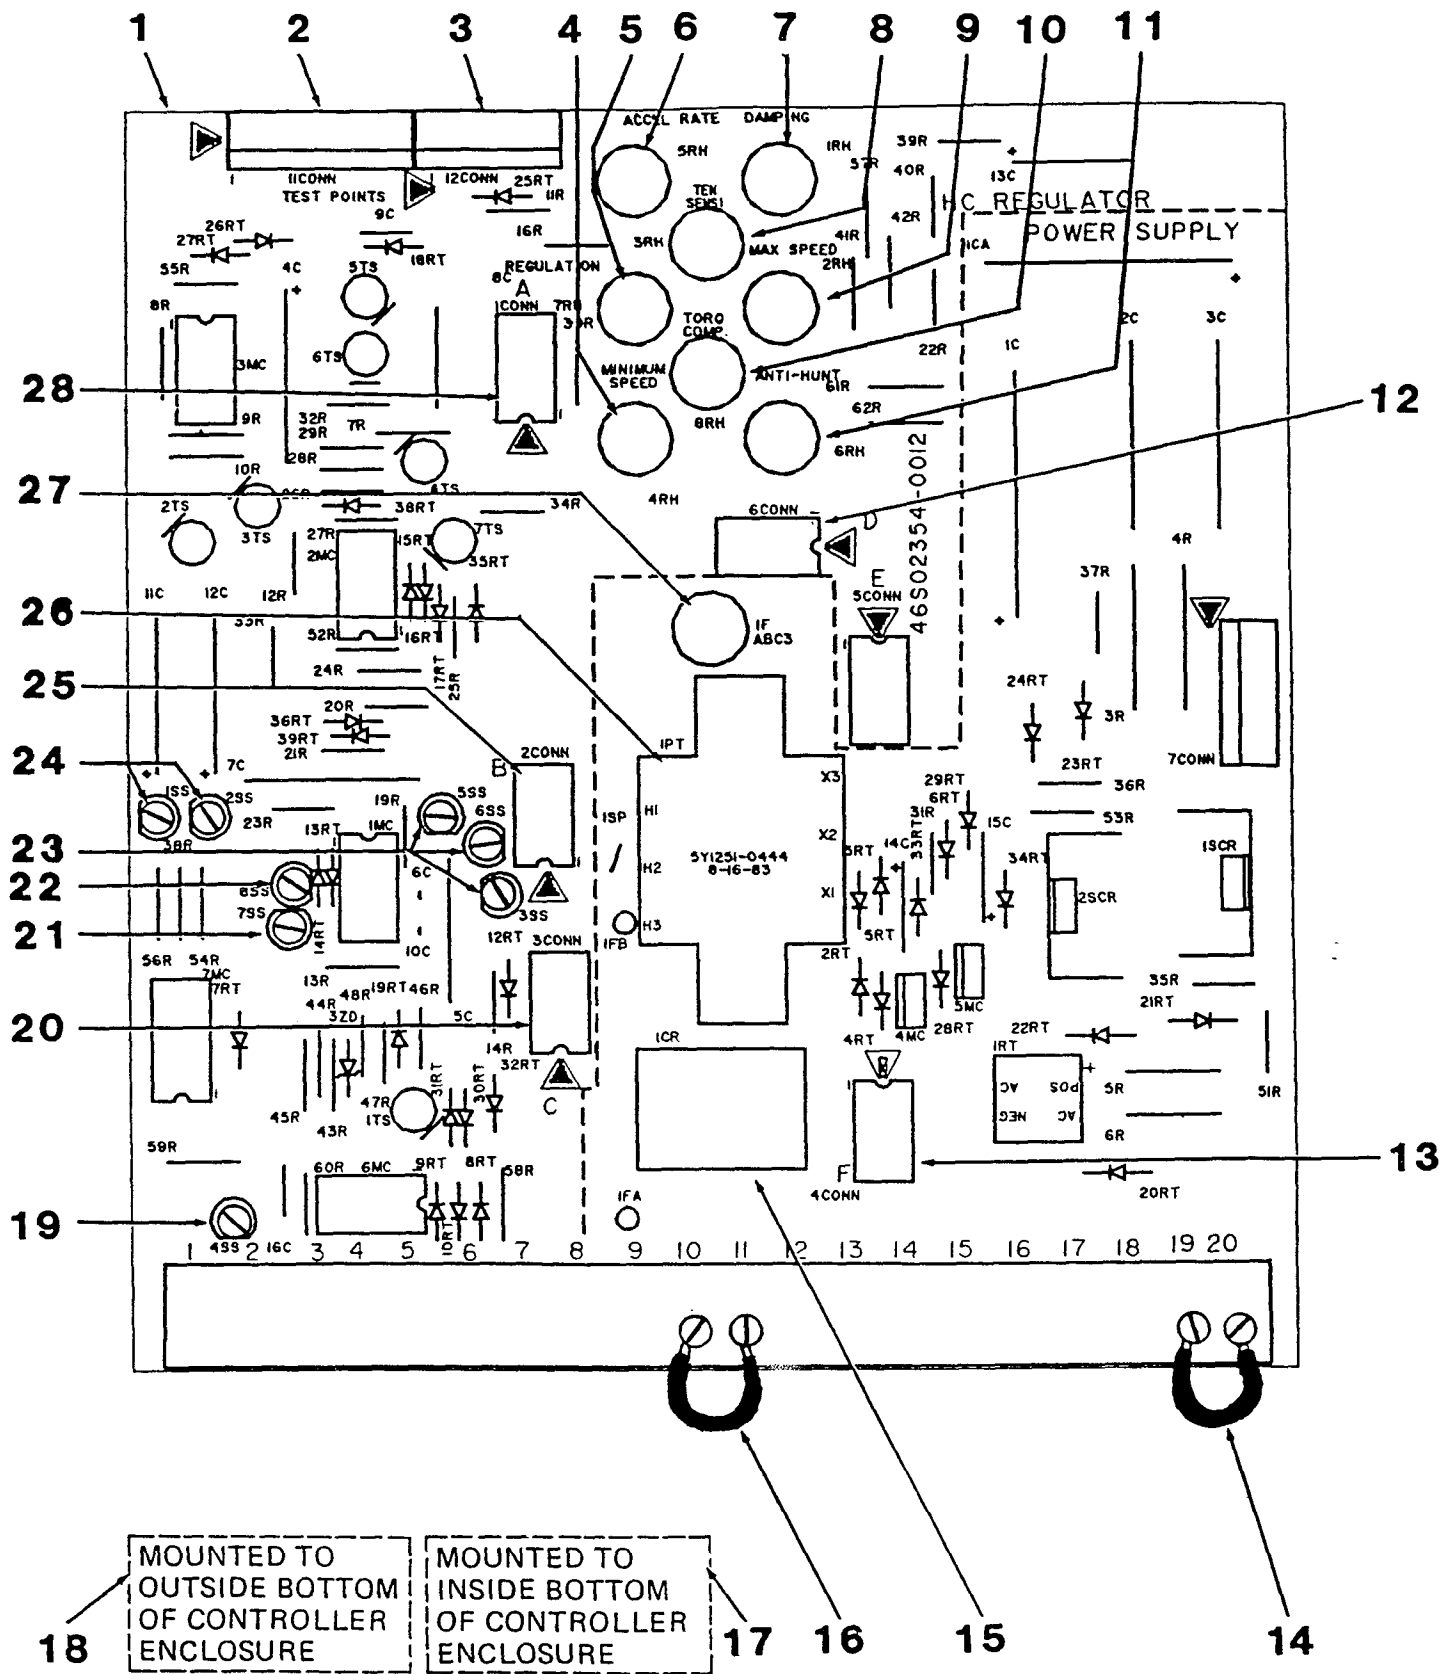

Figure 3. HC2 Controller, Major Component Location
### LEGEND, FIGURE 3
Another feature of the drive provides to the customer the capability to independently control the energizing voltage to the clutch field. This is accomplished by first removing the jumper and then wiring an external contact between terminals (19) and (20) on the main regulator board (see Figure 9). Normally, the jumper should be in place if an external contact is not used (see Figure 3). However, due to the versatility of the features, the factory may have, based on the customer purchase order, added additional internal circuitry between these two terminals and removed the jumper before shipment. **Therefore DO NOT replace the jumper or add external circuitry without first reviewing the schematic shipped with the drive to determine what effect this action would have on equipment operation.**